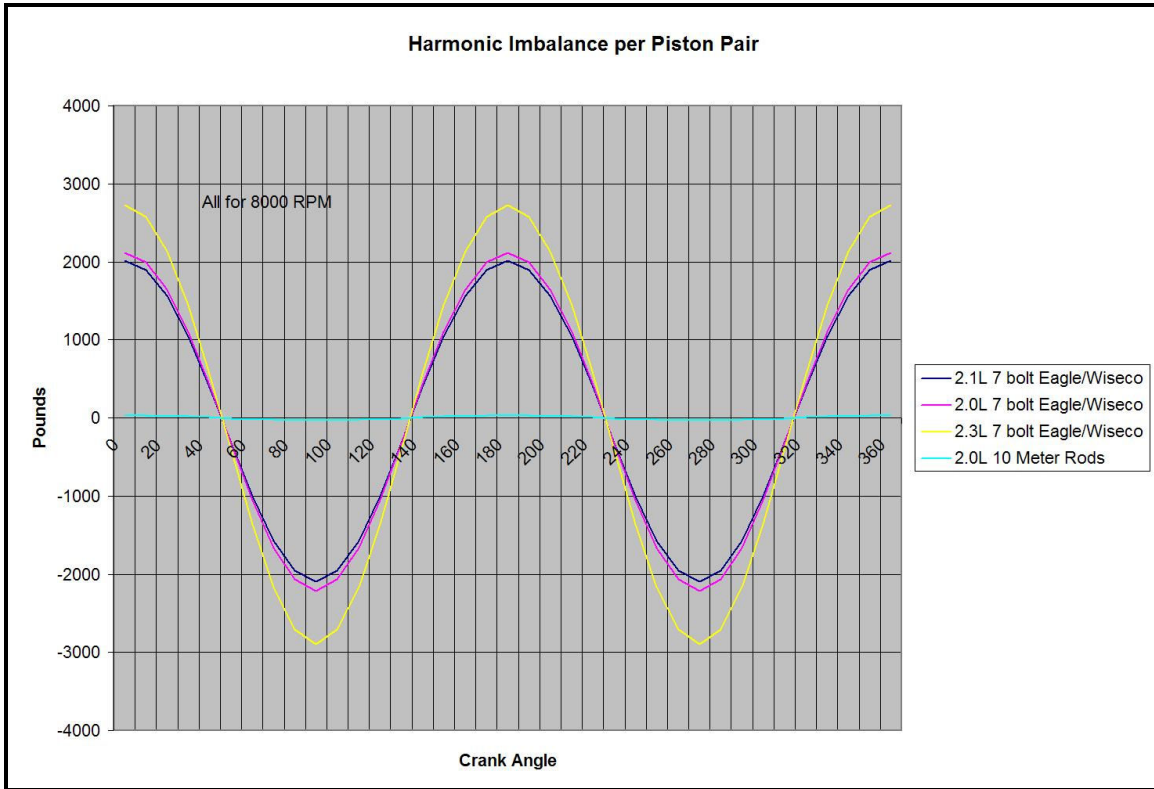

Figure 33 Harmonic Imbalance 4G63 Versions
Figure 33 below shows harmonic imbalance in pounds force for three common 4G63 versions and the theoretical 10 meter rod engine. To get the Imbalance in pounds the acceleration rate was converted to Gs and multiplied by the reciprocating mass in pounds. The forces on two pistons 180 degrees apart are added algebraically to derive the
The harmonic imbalance is inherent in the design of in line four cylinder engines and can not be compensated for by matching the weights of pistons or balancing the crankshaft. The imbalance gets worse with longer strokes or heavier pistons causing a “maximum” size of about 2 liters for in line fours. Mitsubishi pioneered the use of balance shafts to offset the natural imbalance and licensed the technology to Porsche.(24) Figure 33 above shows the imbalance force from one pair of pistons. The 4G63’s two pairs of pistons would have two times this imbalance without balance shaft compensation.